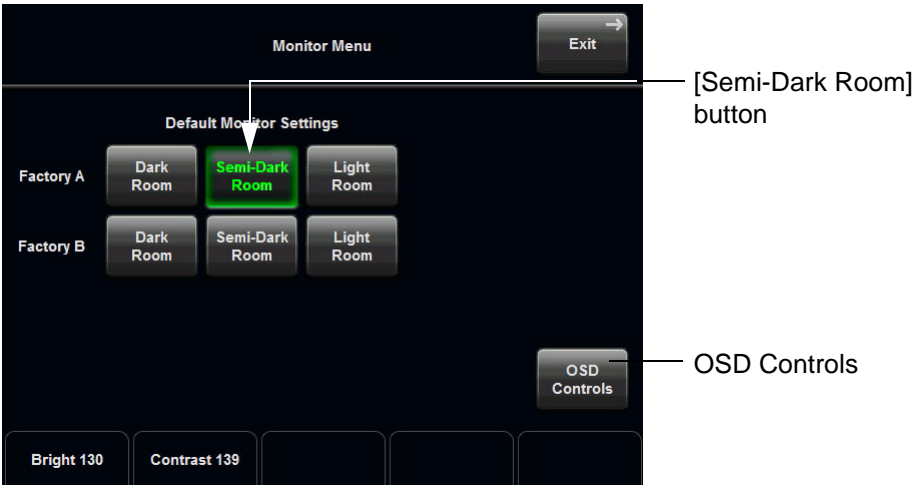

Figure 6-1 Monitor Menu (e.g., BT12)
- 2.) Touch the MONITOR button to display the "Monitor Menu" on the screen (see: Figure 6-1).
- 2.) Touch the MONITOR button to display the “Monitor Menu” on the screen (see: Figure 6-1).